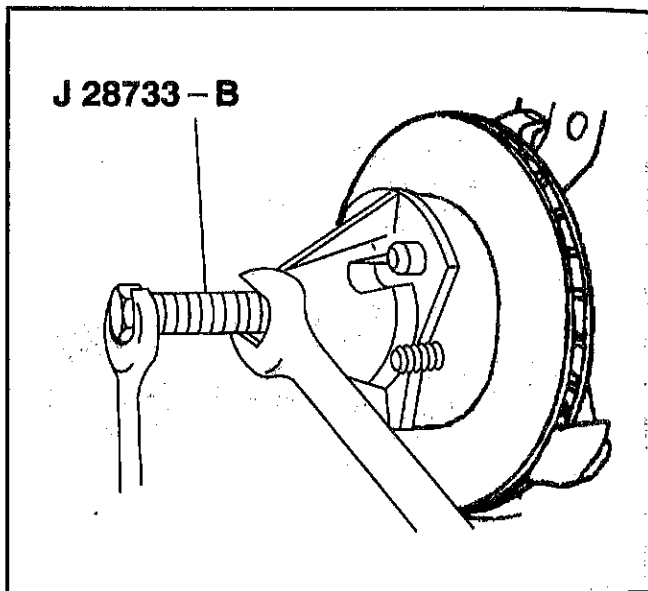

Figure 34—Separating the Splined Shaft From the Knuckle
10. Spline shaft from the knuckle using J 28733-B (Figure 34).